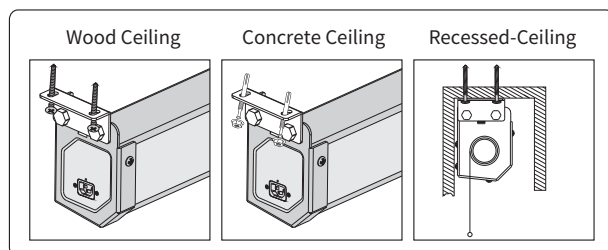

Figure 15
2. Install the screen by using self-tapping screws to fasten the mounting plate through the corresponding holes at the top. Secure both the mounting plate and screen to the ceiling as a single unit. (See Fig. 15)